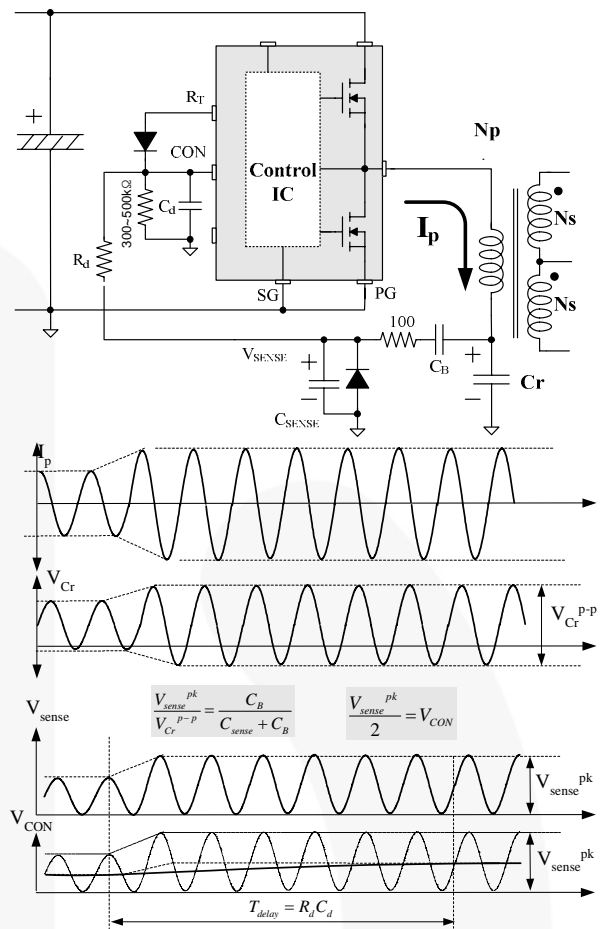

Figure 26. Current Sensing Using Resonant Capacitor Voltage
To minimize power dissipation, a capacitive voltage divider is generally used for capacitor voltage sensing, as shown in Figure 26.
5.3 Overload Protection (OLP): Overload is defined as the load current exceeding its normal level due to an unexpected abnormal event. In this situation, the protection circuit should trigger to protect the power supply. However, even when the power supply is in the normal condition, the overload situation can occur during the load transition. To avoid premature triggering of protection, the overload protection circuit should be designed to trigger only after a specified time to determine whether it is a transient situation or a true overload situation. Figure 26 shows a typical overload protection circuit. By sensing the resonant capacitor voltage on the control pin, the overload protection can be implemented. Using RC time constant, shutdown delay can be also introduced. The voltage obtained on the control pin is given as: